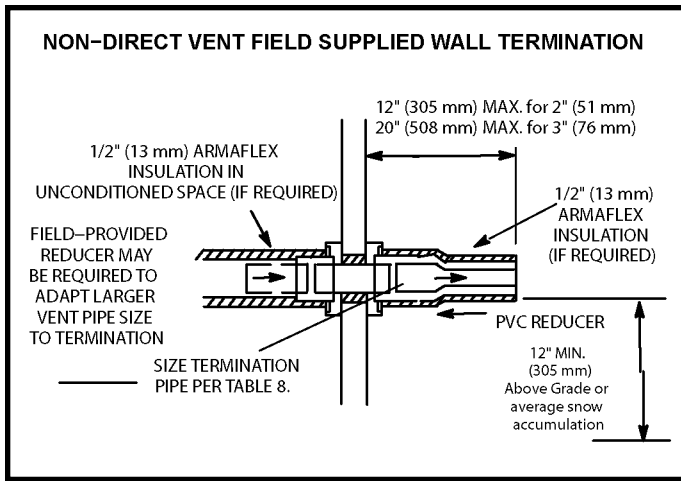

Figure 45
2. On field supplied terminations for side wall exit, exhaust piping may extend a maximum of 12 inches (305 mm) for 2" PVC and 20" (508 mm) for 3" (76 mm) PVC beyond the outside wall. See Figure 45.